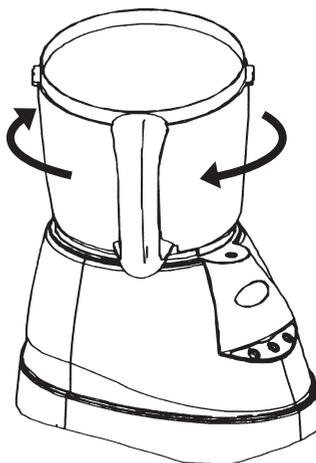
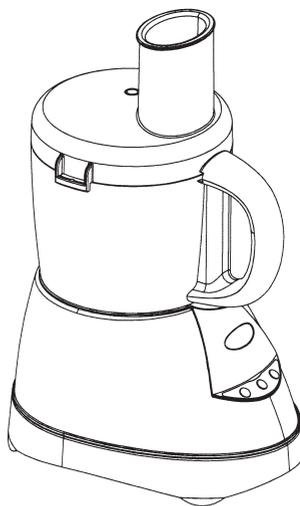

Fig. 1
Fig. 2
1. Place the mixer bowl on the motor unit so that it engages in the grooves, see fig. 1. Turn the bowl anti-clockwise until it locks in place with the handle aligned with the control panel.
2. Place the accessory holder (2) on the drive shaft.
3. Place the disc attachment (1) carefully on the drive shaft with the required side facing upwards.
5. Tighten the lid securely until you hear a click, so the feed tube and the mixer bowl are aligned, see fig. 2.
2. Place the blade (4) on the drive shaft.
4. Tighten the lid securely until you hear a click, so the feed tube and the mixer bowl are aligned, see fig. 2.